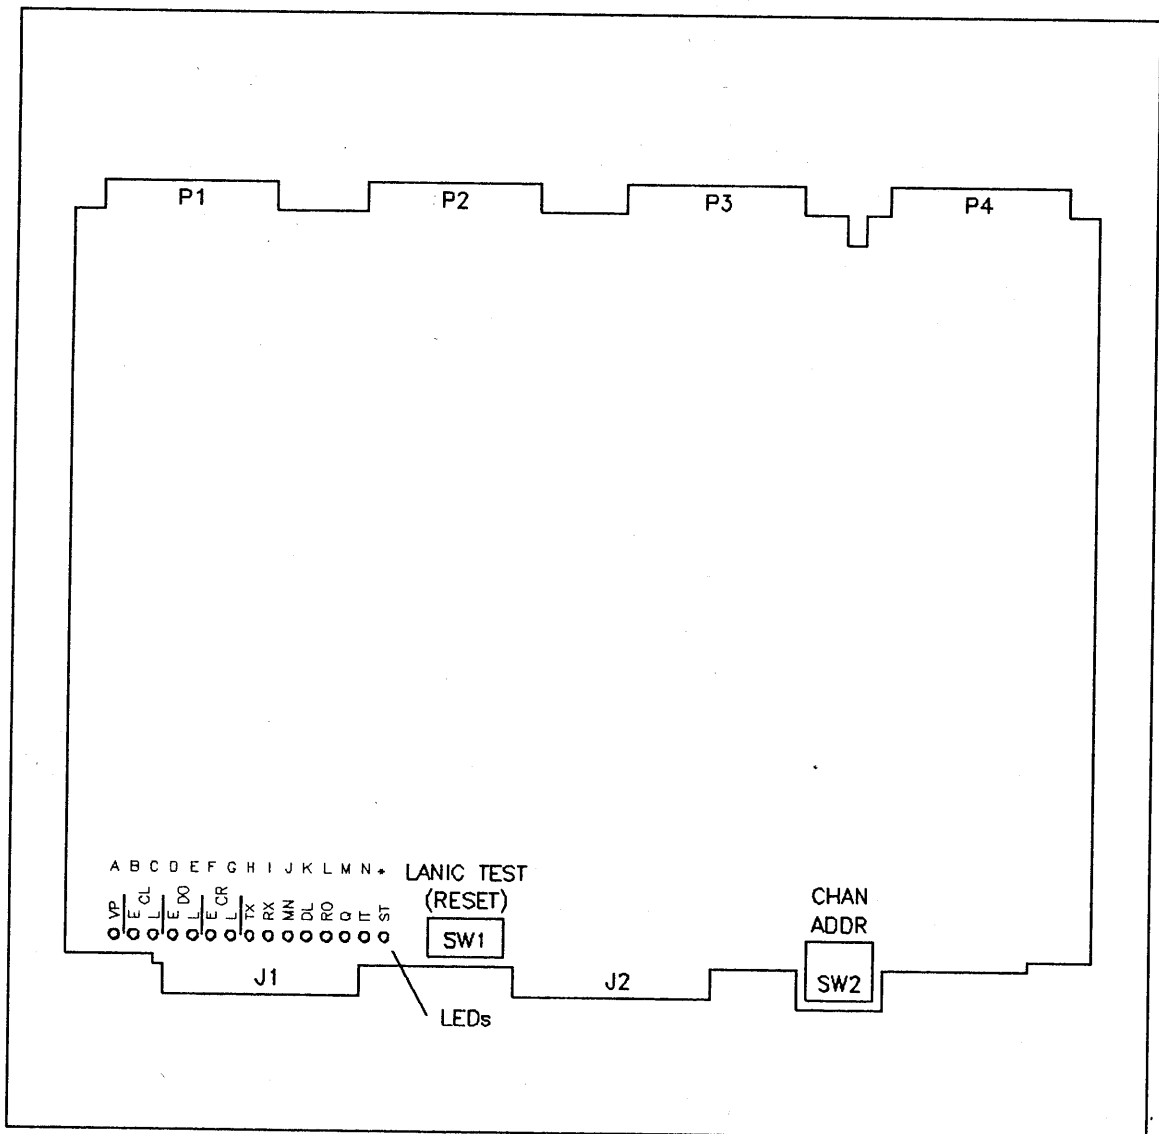

Figure 4-1. LANIC Switch and LED Locations
2. Open the computer card cage door and observe the self-test LEDs (see figure 4-1 for the locations of the LEDs). Note whether the LEDs indicate normal activity or whether the ST/* LED is blinking slowly and LEDs H through N are displaying a steady pattern. If a steady pattern is being displayed by LEDs H through N, make a written record of which LEDs are lit. (This information may be needed later if the problem is intermittent.)
3. Press the LANIC TEST RESET switch (see figure 4-1) to initiate the self-test.